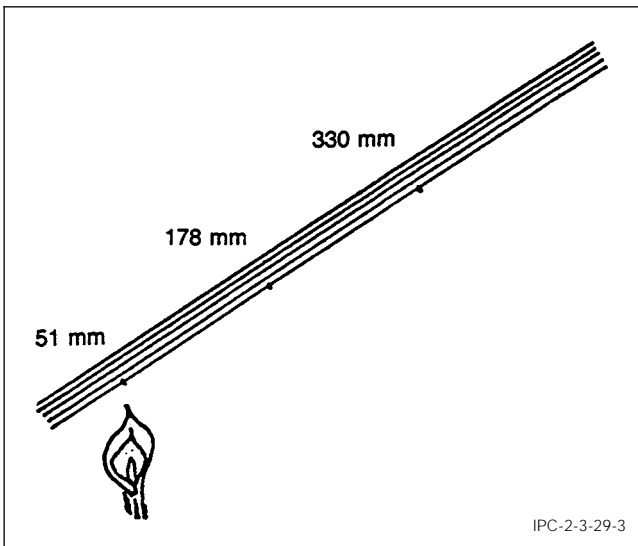

Figure 3 Edge of Five Cables
5.1.3 Tape five full-width specimens together and otherwise tested as in 5.1.1 (see Figure 3).